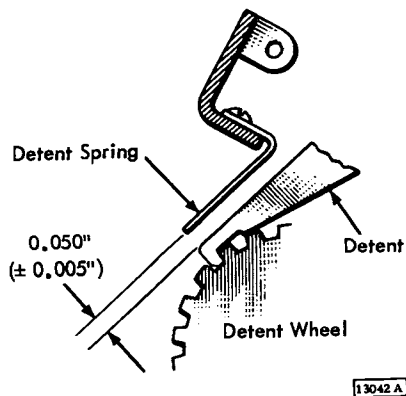

Figure 4-23. Clutch Magnet Detent
3. With the detent in the detent wheel, adjust the detent spring for a clearance of 0.050" \pm 0.005" between the detent and the detent spring (Figure 4-23).